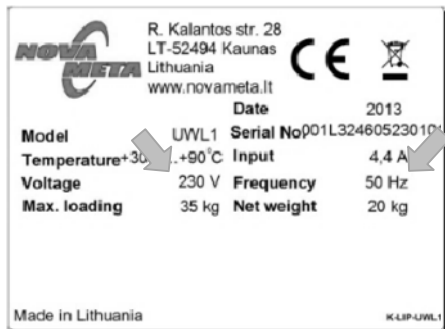

Fig. 4. Example of the nameplate
If operating fails, first look to see whether the unit has been unintentionally switched off, or whether a fuse has blown. If the failure cannot be found, contact your supplier quoting Model and Serial No. of the product. This information can be found on the nameplate (fig. 4).
The heated dispenser is intended for connection to alternating current. The connection values for voltage (V) and frequency (Hz) are given on the nameplate. The nameplate shown in the fig.4 is intended purely as an example.